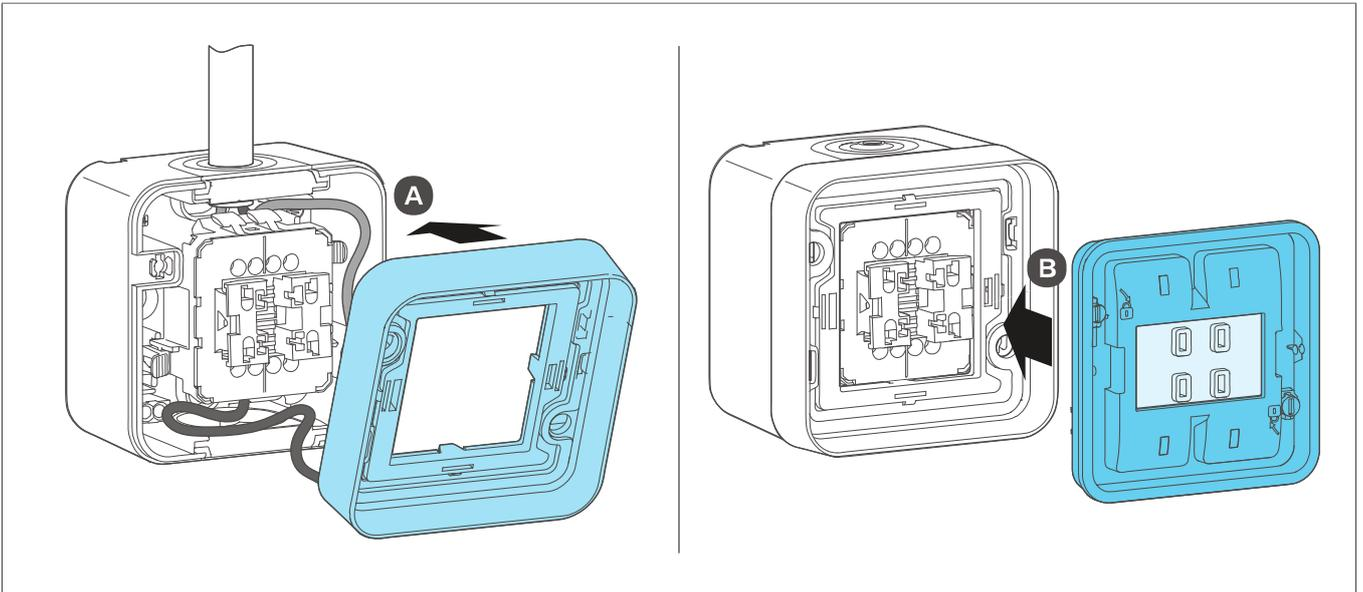

Fig. 11: Place the illuminated cover frame (left) / Snap the seal into place (right)
- 6 Place the illuminated cover frame (3) in correct position onto the housing bottom part A (Fig. 11, left).
- 7 Lock the sealing (2) into place in the cover frame B (Fig. 11, right).